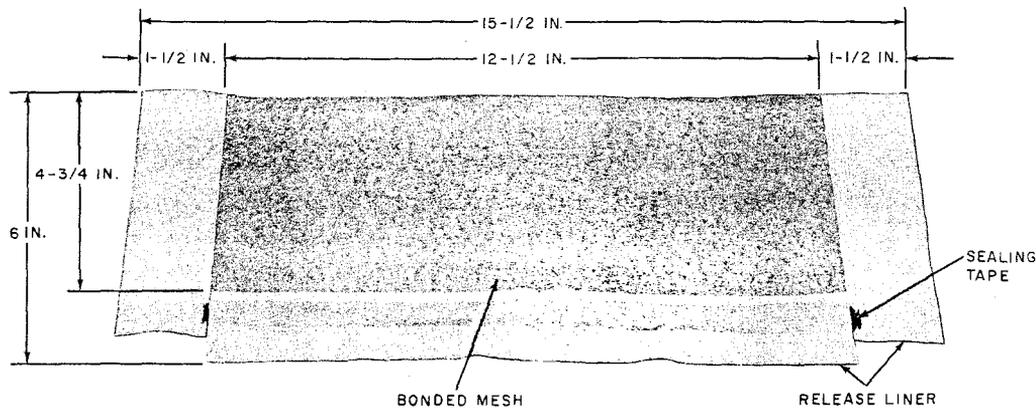

Fig. 1—8962 Multimold
2.01 The 8962 Multimold (Fig. 1) consists of the following: